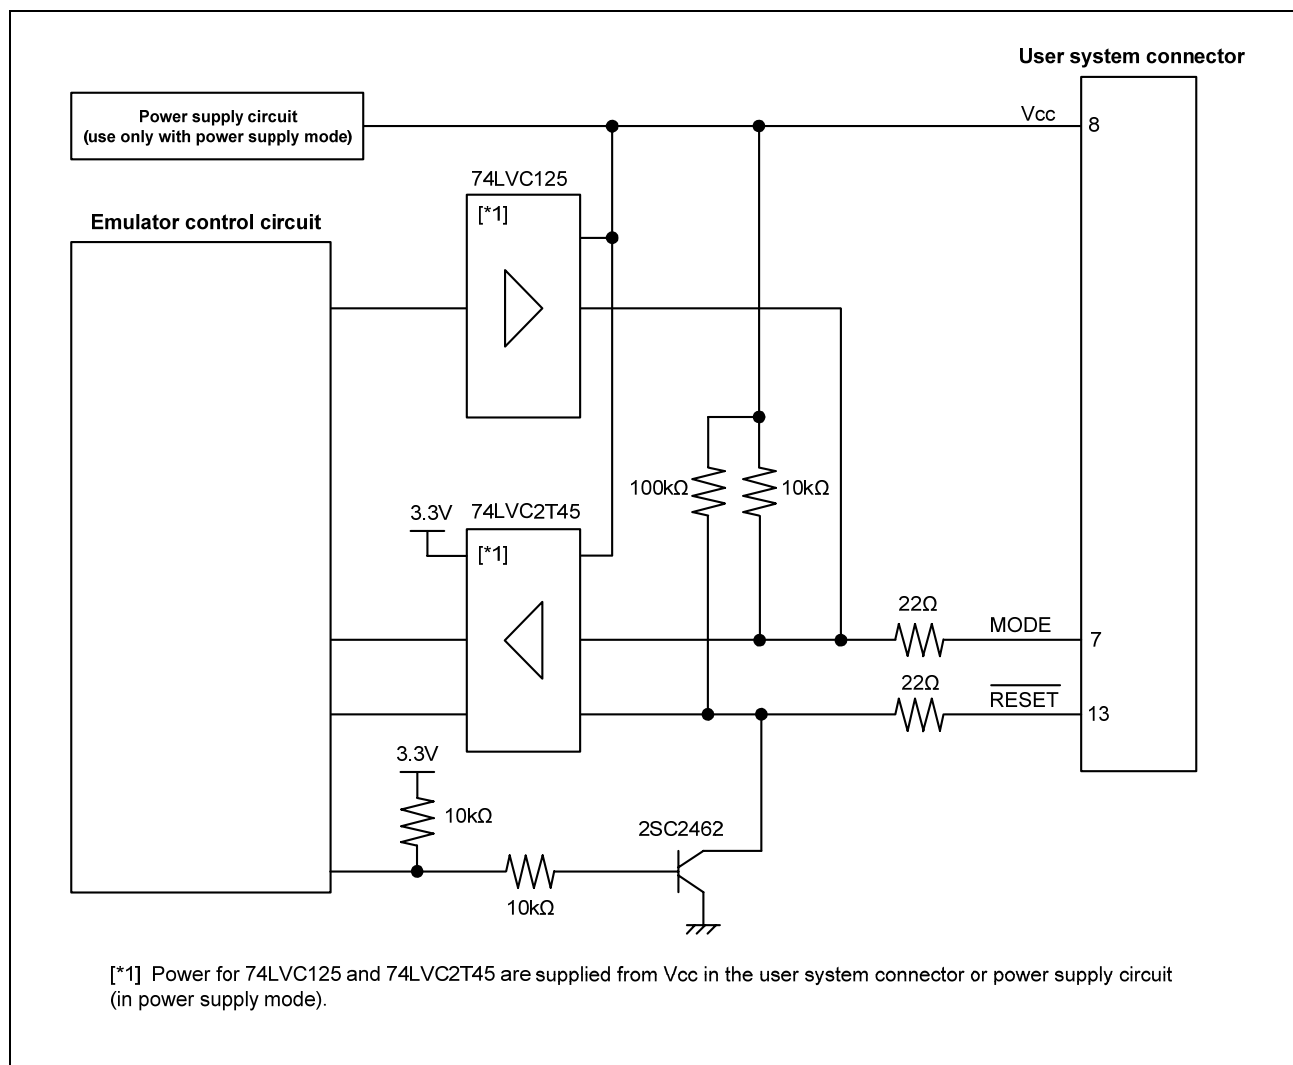

Figure 5.4 Interface Circuit Inside the E8a Emulator (For Reference)
7. Figure 5.4 shows the interface circuit in the E8a emulator. Use this figure as a reference when determining the pull-up resistance value.